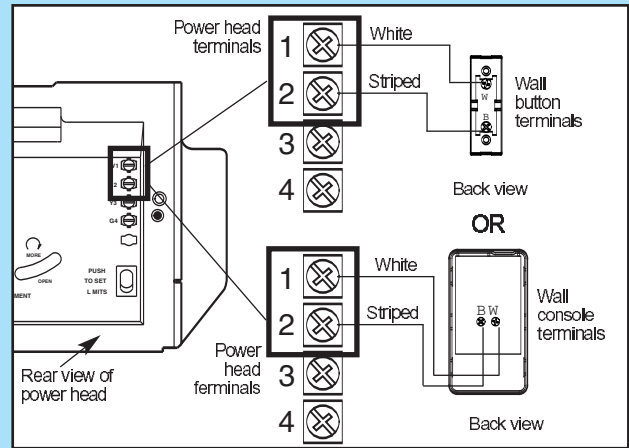

Fig. 4-1a
- Attach wall control (MAX Fig. 4-1a)